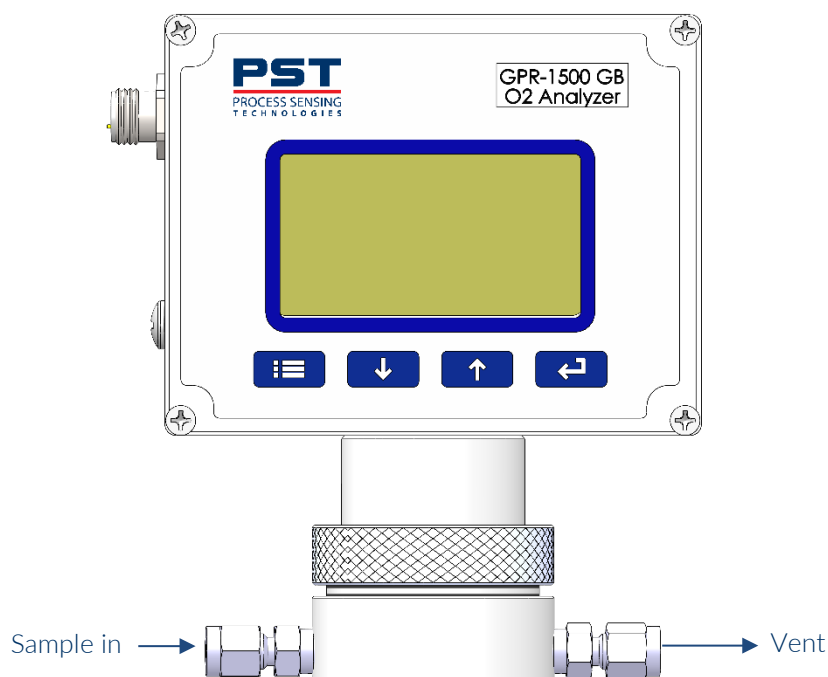

Figure 8. Gas ports
- Loosen wing nut and open the KF-40 flange (refer to Figure 8 on page 12 below for guidance).
Your transmitter is equipped with two gas ports as shown in Figure 8. The direction of connection does not matter; either port may be used interchangeably.
1. See Figure 8 on page 12 and connect your **Sample** and **Vent** lines.